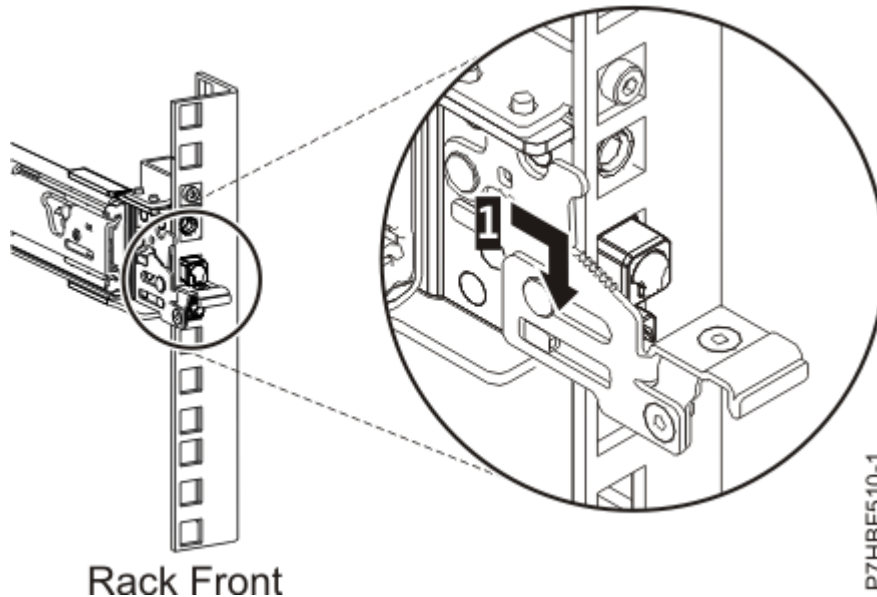

Figure 5. Pins that are seated on the front rail of the rack
6. Pull the slide rail forward and insert three pins on the front of the rail into the holes within the selected EIA unit that were previously marked. Lower the slide rail down **(1)** to engage the hook feature on the middle pin. For details, see Figure 5 on page 6.